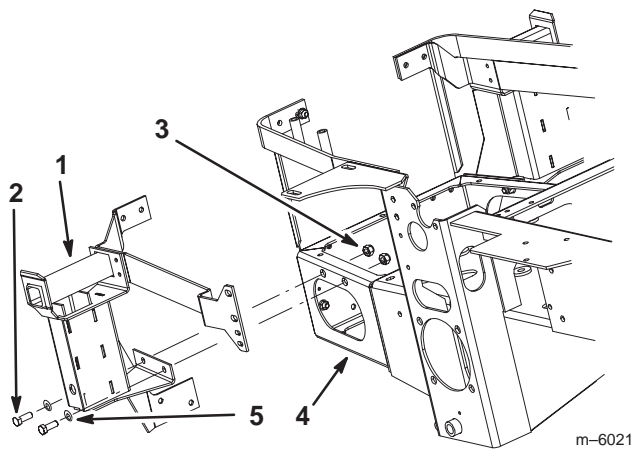

Figure 12
4. Install the bagger mounting bracket to the rear bumper side with 2 bolts (3/8 x 1 in.), 2 flat washers (3/8 in.), and 2 locknuts (3/8 in.) (Fig. 12).
3. Tighten the bagger mounting bracket to the side of the rear bumper (Fig. 12). See torque table.